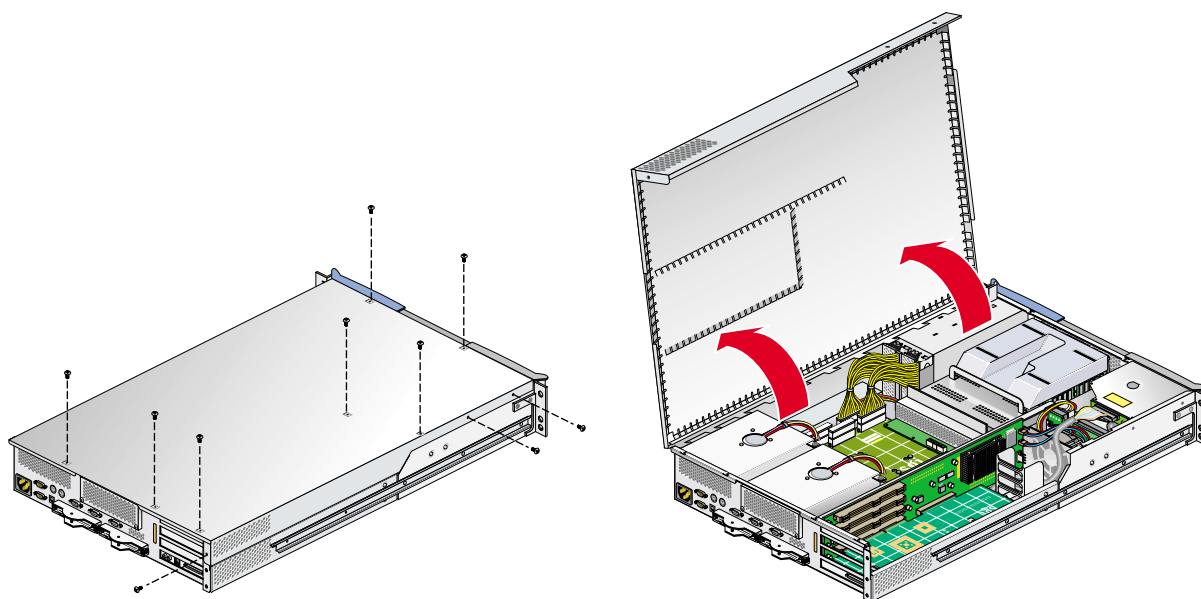

Figure 6-32 Opening the Module to Access the L1 Controller Display
5. To access the area where the L1 display is replaced, remove the ten Phillips screws shown in Figure 6-32, and lift and open the hinged cover.